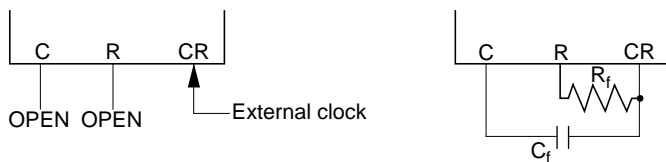

Figure 4 Oscillator Connection in Master Mode
1. CR Oscillator: The CR oscillator generates the HD66503 operation clock. During master mode, since the operation clock is needed, connect oscillation resistor R_f with oscillation capacitor C_f as follows. When the external clock is used, input external clock to pin CR and open pins C and R (Figure 4).